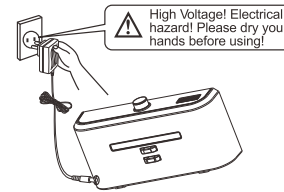

Figure 2
4. Connect the output terminal of the adaptor with DC socket of the Docking Station (Refer Fig 2).